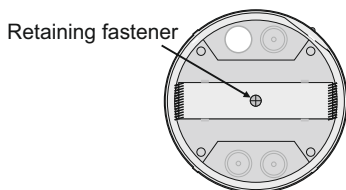

Figure 4
**Step 2.** Unfasten the retaining screw (Figure 4) and detach the part for suspended ceiling installation.